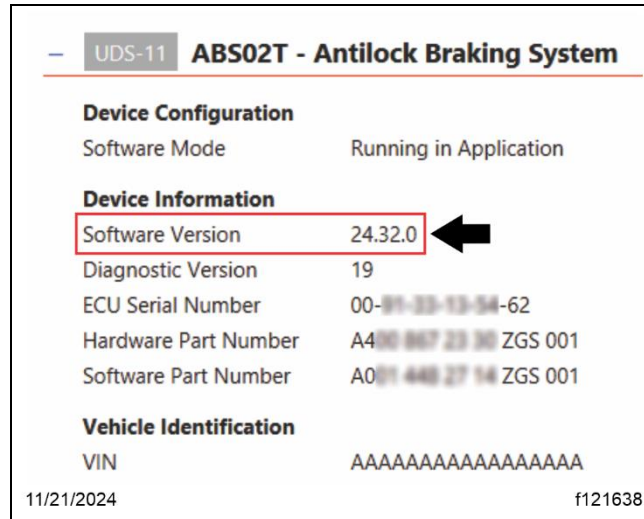

Fig. 58, ABS ECU Software Version
- 17.3. Open DiagnosticLink(DL) latest version (8.21 sp1 at time of publication). In order for DL to receive the latest 'cbf' files related to this Recall DL must 'Connect to Server' (via 'Program Device' or 'Tools/Update'). Once DL is connected to server, go to the 'Identification' tab. Navigate to ABS02T - Antilock Braking System, and verify the 'Software Version' is '24.32.0.' See Fig. 58.